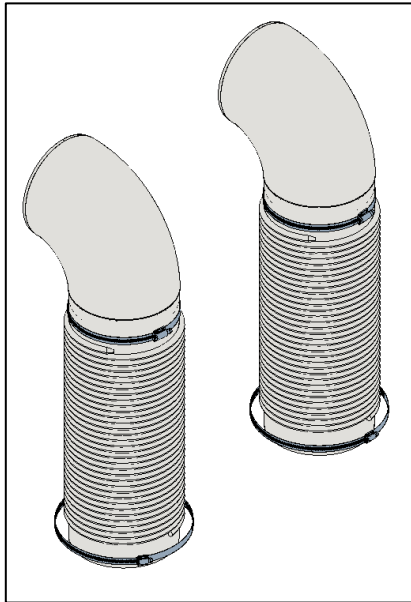

Figure 3-31: Installation of 90° Elbows on CAC8 Ducts
6. Install the 90° elbows on one end of the ducts and secure them with the worm gear clamps (Figure 3-31).